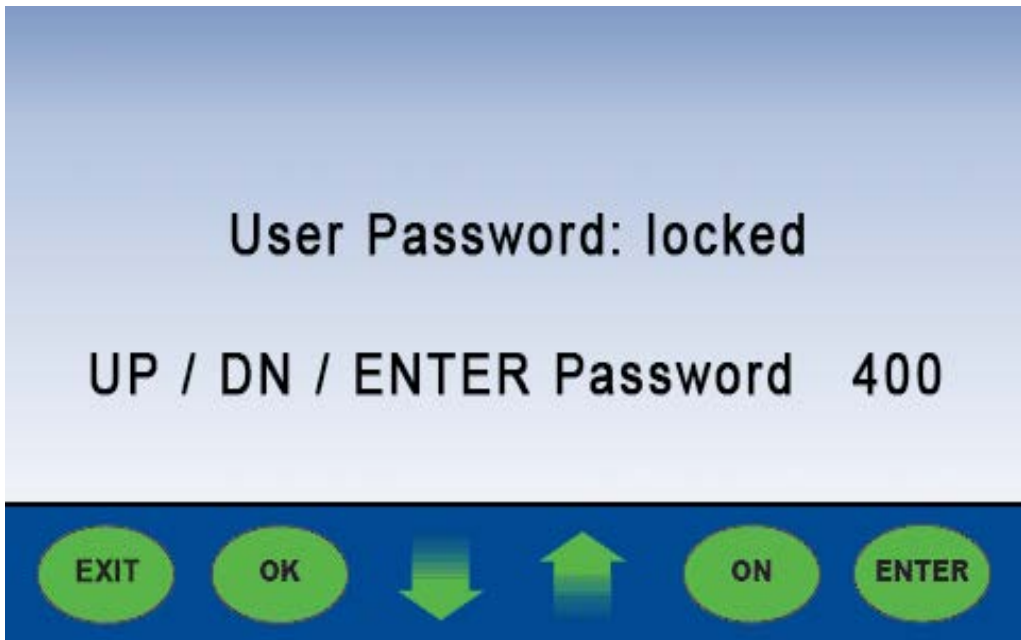

Figure 68
2. Using the **up arrow**, press to assign the first number in the password sequence (to decrease this number, use the **down arrow (Figure 68 on page 120)**).